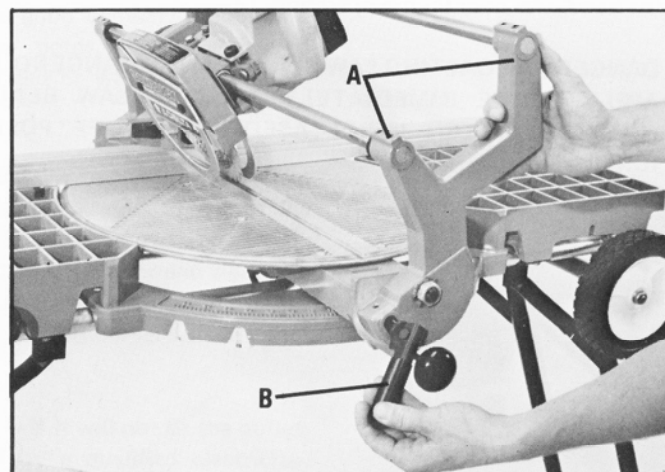

Fig. 23
To tilt the track arm (A) Fig. 23, for bevel cuts, proceed as follows:
1. Lift up on bevel locking lever (B) Fig. 23, tilt arm (A) to the desired angle and push down on bevel locking lever (B) to lock arm in position. Positive stops are provided at 90 and 45 degrees. A bevel indent is also provided at the 33 7/8 degree bevel which is used for cutting crown moulding.